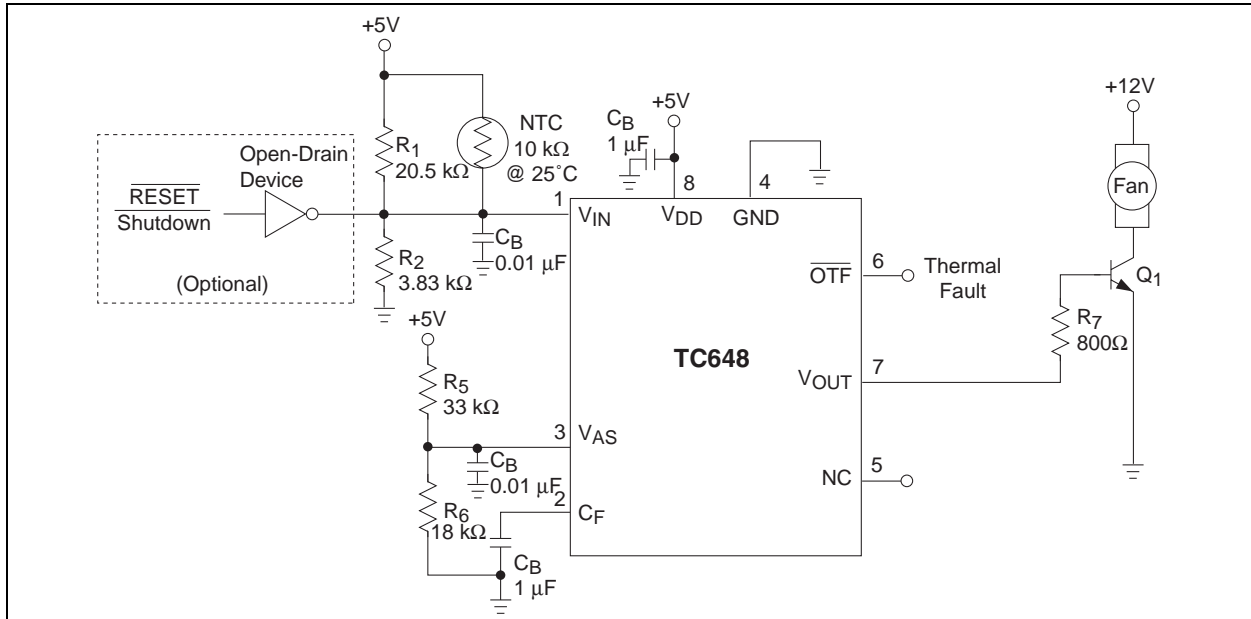

FIGURE 5-8: Design Example.
Step 1. Calculate R_1 and R_2 based on using an NTC having a resistance of 10 k Ω at T_{MIN} (25°C) and 4.65 k Ω at T_{MAX} (45°C) (see Figure 5-8).